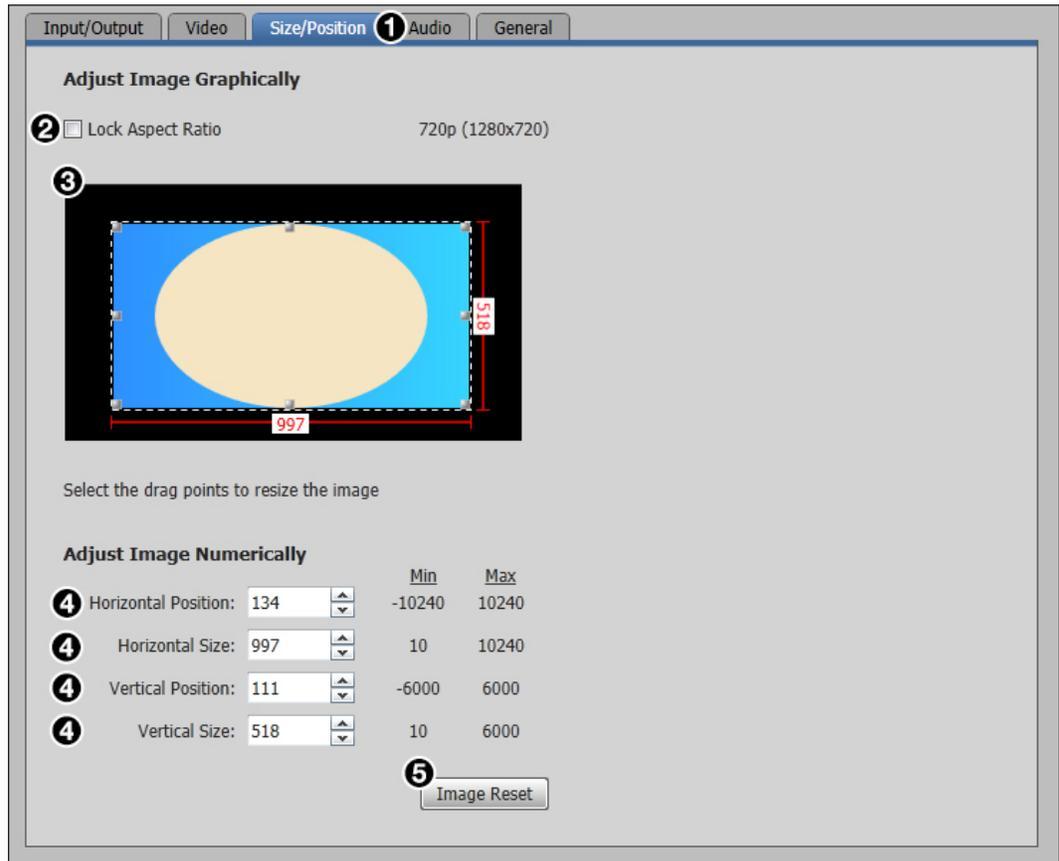

Figure 34. Size/Position Tab
Click the **Size/Position** tab (see figure 34, ①) to open the Size and Position screen. This screen contains several different ways to adjust the size and position of the output.
1. Click and drag the drag points of the sample image in the Preview box (③) to resize the image within the designated space (defined by the black area in figure 34 above).